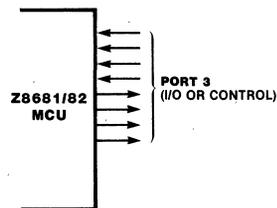

Figure 12. Port 3
**Port 3** lines can be configured as I/O or control lines (Figure 12). In either case, the direction of the eight lines is fixed as four input ( $P_{30}\text{--}P_{33}$ ) and four output ( $P_{34}\text{--}P_{37}$ ). For serial I/O, lines  $P_{30}$  and  $P_{37}$  are programmed as serial in and serial out, respectively.